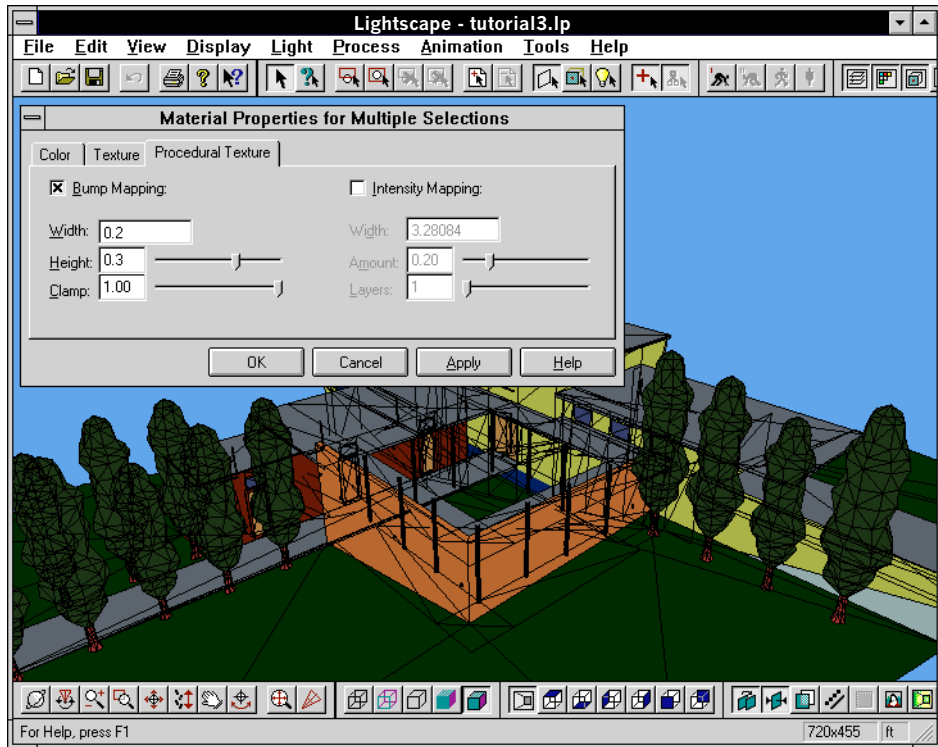

Figure 3-6. *Setting Bump Mapping for Multiple Materials*
8. Click OK to update the three materials and close the dialog (see Figure 3-6).